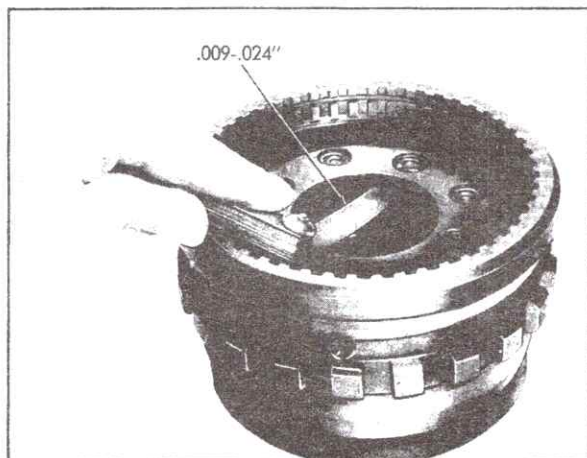

Fig. 7-164 Checking Pinion End Play
- c. Check pinion end play. Pinion end play should be .009 inch - .024 inch, Fig. 7-164.